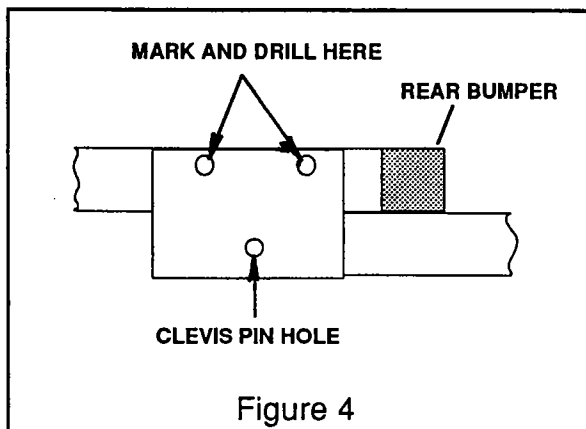

Figure 4
- Using the left mounting bracket as a template, push the catcher frame up against the rider frame. Mark and drill two 25/64" holes through the rider frame. (See figure 4)